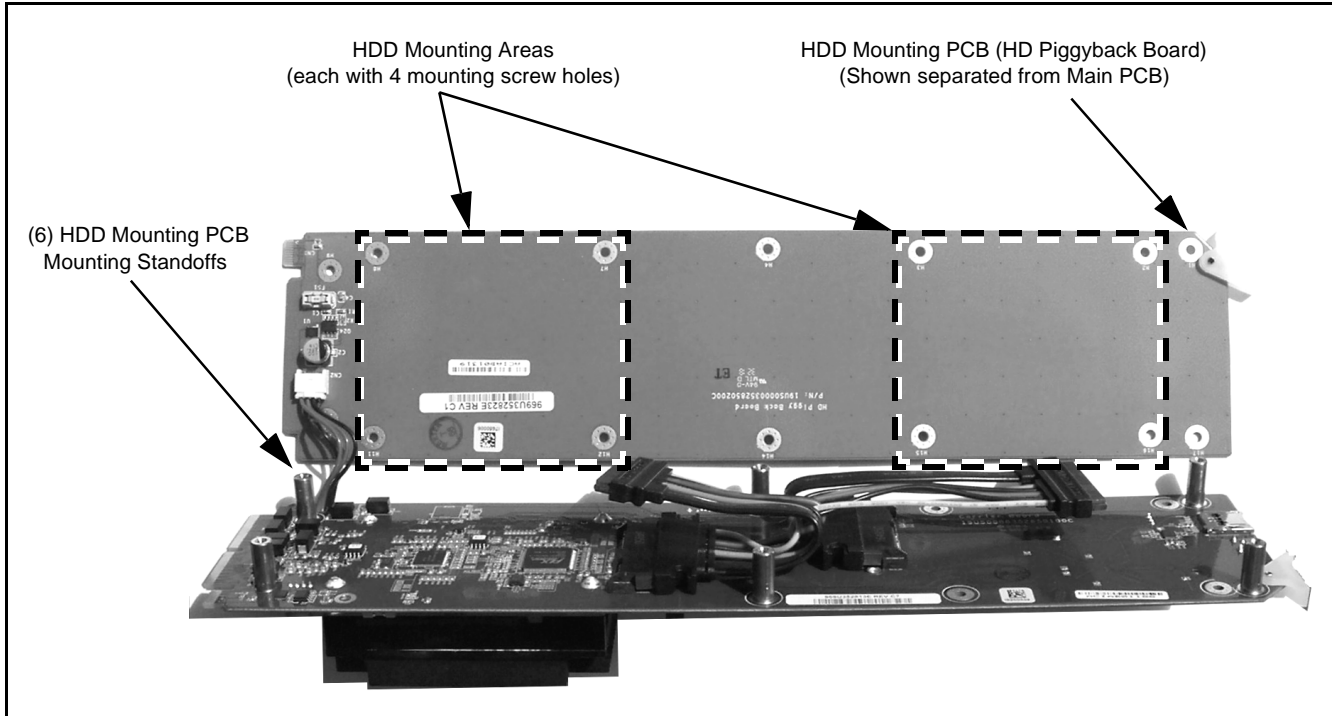

Figure 2-1 HDD Mounting Area and Details
1. (See Figure 2-1) Around periphery of OG-PC-x86-A assembly, remove six (6) screws securing HD Piggyback Board (HDD mounting PCB) from OG-PC main board. Tilt HD Piggyback Board away from main PCB.